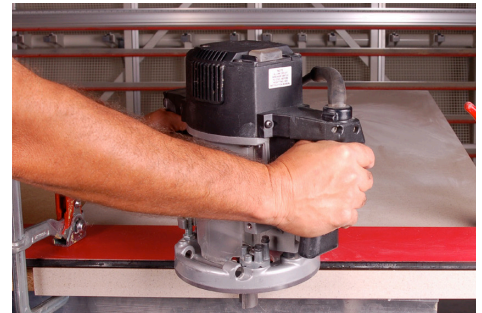

Figure 18A
- Machine all edges to be seamed. (FIG. 18A)